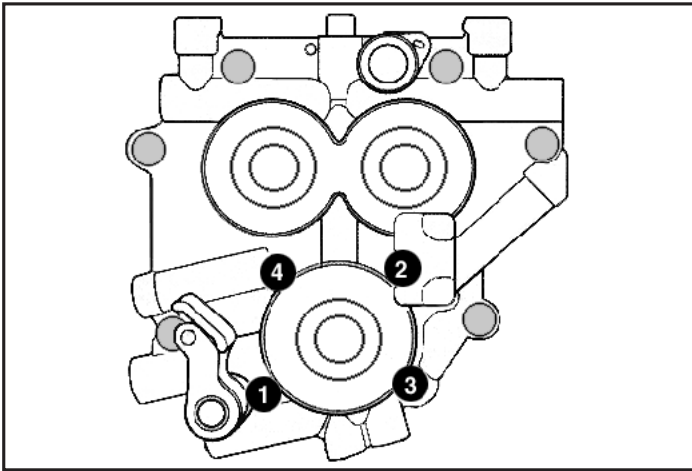

Figure 1
12. Following sequence shown in **Figure 1**, alternately loosen and remove oil pump bolts.
22. Install oil pump mounting bolts with a drop of blue thread locker according to procedure found in factory service manual: Gently bottom screws, then back them out 1/4 turn. Center oil pump by rotating engine by hand while snugging down screws. Alternately tighten bolts to 95 in-lbs. torque in sequence shown in **Figure 1 on Page 4**. Before proceeding with installation, verify that inner gears rotate freely and no binding is present.